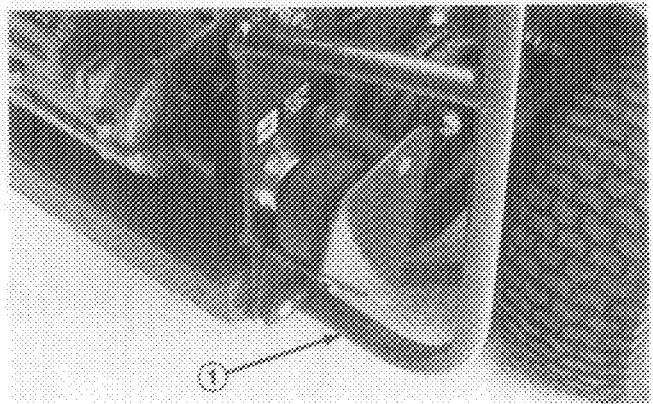

Figure 4
4. Loosely secure rear of bagger frame to bottom of R.H. support bracket and rear frame with (2) 3/8 - 16 x 1-1/2" lg. capscrews and spacers (supplied in loose parts bag) and locknuts previously removed (Fig. 4).
5. Loosely secure rear of bagger frame and handle to rear frame with large head capscrew (supplied in loose parts bag) and flangenut previously removed (Fig. 4).